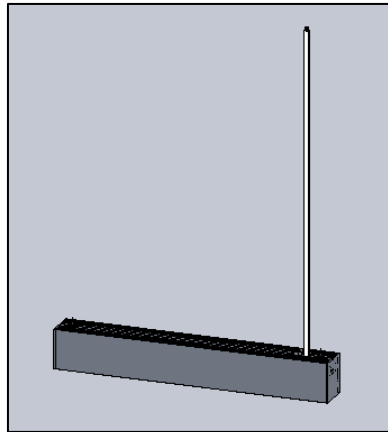

FIG. 2 - UNA LUMINAIRE
1. UNA LUMINAIRE. (Pre-assembled as shown in FIG. 2)